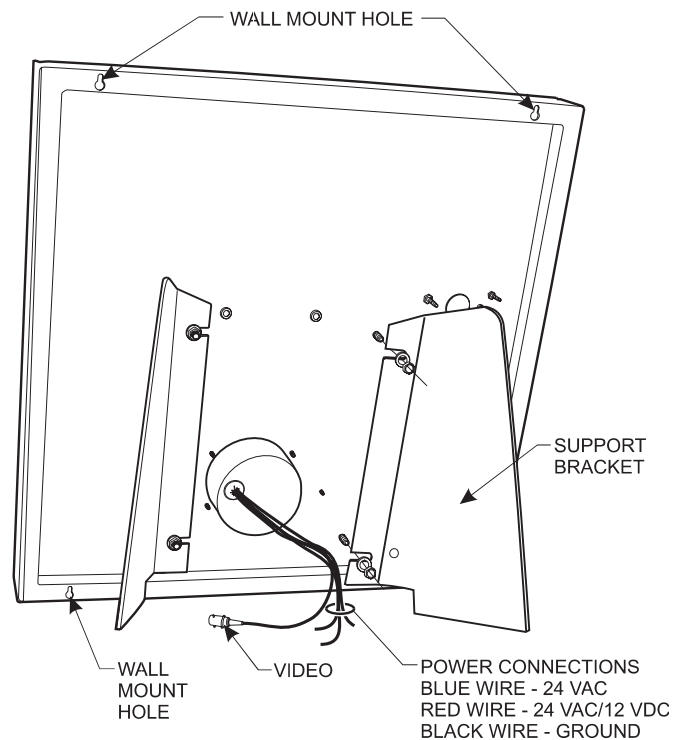

Figure 1. Back View
1. Install the two support brackets to the back of the display (refer to Figure 1).
- b. Depending on the input voltage, connect either the 12 VDC or 24 VAC input power wires (refer to Figure 1).
1. Prepare mounting surface. Use a minimum of two fasteners (not supplied) of appropriate size to attach the display to the wall (refer to Figure 1).